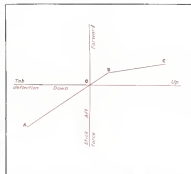
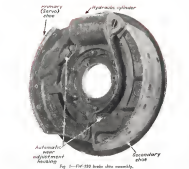

Fig. 2. Diagrammatic representation of stick force required for elevator deflection through action of torsion element in spring tab installation.
Fig. 1—PW-150 brake shoe assembly.
Fig. 1 (Left) Looking up late stretch jaw of one end of the holder. Only two of large springs are shown. Inside the springs are two shafts which guide movement of semicircular jaws. Above looking downward into stretch jaw mechanism, with one semicircular jaw held out to show details of springs. Heavy vertical shaft is punch which fits into mold set in upper jaw.
The solution to the problem came with the Douglas development of a stretch die with a male punch and jaws that operated under the single action of a Toledo draw press. To understand this device, first imagine an orthodox stretch form die in which a hat section is set with the crown inverted and with the flanges on the upper side of the die. The die opens inside a die holder which is 60 in. long. Fastened to the top part of the die holder (Fig. 1) is the sliding part of the die, a male punch which delays its impact upon the work until the metal is under approximately 35% stretch.
Fig. 1 (page at left) shows the units of the spring tab installation as assembled and exploded relations. Elevator nose ribs are fastened to rearward carried by the torque tube (A) which is divided in two sections connected by a bridge fitting (B) at locality of attachment of elevator control linkage is a steel torsion element constructed within each section of the torque tube. This torsion element (C), shown in section in detail B, is essentially a large spring in the form of a tube concentrically doubled back because of space limitations, and attached to one end of the torque tube section.
Action of the spring tube element is such that its movement of the stick causes counter-clockwise rotation of the element's large or outer section (1) which, being attached to extension (2), immediately causes torque tube fitting (3) serving as a stop. Twisting of the large section gives a tab deflection proportional to the stick force used—illustrated by the line OA in the force diagram shown in Fig. 2.
Since the inner and intermediate tube sections twist more readily than the large outer section, force applied beyond point B (Fig. 2) will result in deflection of only these smaller tubes, along the line BC, to give a large tab deflection for comparatively little application of force—a definite aid in spin recovery.
Fig. 1. Torsion tube element unit in section at lower left is used location of Vought AD-6A Corsair. Assembled unit is shown in exploded relation at upper right, giving tab-spring installation of torsion element—gives large elevator deflection under light loading conditions with reasonable stick force, yet permits pilot to retain stick feel when load is light.
Each brake (Fig. 1) has a hydraulically operating cylinder cast integral with the brake shoe support and another brake mechanism is of the use directional type with primary shoe attached to the operating piston and hinged to the secondary or main shoe, which is anchored to the back end of the hydraulic cylinder. Primary shoe provides a servo action and increases braking capacity for a given foot pressure.
Each shoe is equipped with an automatic adjustment device which serves to retract the shoe and maintain a substantially fixed clearance by compensating for wear. As soon as the slack of the arm (Fig. 2), with application of heavy brake pressure or continued normal brake use, and consequent wearing of the shoe, the bearing, as it moves to the right when following the shoe, draws the retaining washers into contact with the split brass nut on the fixed retracting rod, and if the nut is rolled more than half the thread pitch (32 tpi) it will expand and seat itself on the following thread. When the brake is released, the nut acts as a stop and prevents the retracting spring from forcing the shoe back to its original position, since the force of the spring is not sufficient to expand the split nut.
Fig. 2—Detailed view of constant-clearance brake adjustment mechanism on PW-150. Feature is 2-piece brass nut which automatically expands when clearance is encountered as result of brake wear. In operation, the retracting member pushes against the nut, causing it to expand and seat itself on the following thread. When brake is released, nut acts as stop and prevents spring from pulling brake shoe back to original position. (Split nut by Kuler.)
Mounted on a standard Scoreby base, which gives a reversal of rotation every 715 rev, this machine (Fig. 1) has three noteworthy features. Because each half of the testing mechanism is similar to the other, two entirely independent tests may be made at the same time, if a sudden demand should require it; one section of the Scoreby may be used for instruction purposes while the other is still reserved for routine tests; also, floor space and initial investment are considerably less than would be required for two separate machines to perform the same work.
Servo units and the other noncontaminating parts were standard units as used with automatic pilot systems, but the method of construction then was necessarily different. Referring to Fig. 2, the servo units are at the back of the machine and are connected to the follow-up pulleys by cables running over standard ball-bearing pulleys outside the edge of the table. Because the spring-mounted follow-up pulleys exert sufficient force to keep the cables taut and since there are no control surfaces to be moved, cable connections are made only at one end of the servo pulley rods, instead of to both ends as is necessary in the airplane itself.
Fig. 1. Front view of automatic-pilot testing Scoreby, built as two identical sections to permit use of one half for instruction without affecting use of second part for operational testing. Its emergency lock (also used for other of above purposes). Chief Machine Shop of AEA, is shown checking back and forth out of state pilot (left) while direction of cable indicator is in right section. Failure will reverse direction of rotation every 715 rev. Its upper portion frame is in center, with vacuum pipes on each side and oil pressure pipes below. Two lower motor shafts below pipes regulate vacuum in instruments being tested. Gauge counter adjusts in right section as an relay operating behind oil valves. (Detail 11 in Fig. 2). Section below left relay is for instrument lighting. [AEA photo]
Fig. 2. Rear view of instrument/gauge-holding Sweeney. Sump (1) is oil reservoir which returns oil from all parts, (2) is servo valve, (3) servo valve, (4) servo valve, (5) servo valve, (6) servo valve, (7) servo valve, (8) servo valve, (9) servo valve, (10) servo valve, (11) servo valve, (12) servo valve, (13) servo valve, (14) servo valve, (15) servo valve, (16) servo valve, (17) servo valve, (18) servo valve, (19) servo valve, (20) servo valve, (21) servo valve.
The timer (detail 18, Fig. 2) is the only instrument which is not taken from the original Sperry automatic pilot equipment. Its use is essential in checking reaction time of follow-up mechanisms, servo units, and air relays, since these must operate within fairly close time limits to avoid too rapid control surface movements or overcompensation. The instrument is
a standard Kodak photographic timer with front control knob. Seen in Fig. 1 is the right hand mounting unit being used for testing a directional compass indicator. In this case, the servo units and the other parts which would be used on the airplane for operating control surfaces are not in action. Testing of artificial horizons is performed in a similar manner.
Regulation of the vacuum used for operating the gyro is obtained by turning the knob (shown in Fig. 1) on the lower front of each mounting unit. The knob is marked "adder", "adder", and "vacuum", rising from the left. Turning these knobs clockwise reduces the gyro speed (normally 12,000 rpm), while the opposite rotation causes an increase in revolutions.
Oil for servo operation is placed in the sump (detail 1, Fig. 2) and passes through the filter (14) each time it is circulated through the system. Since the capacity of the air servo units is quite large compared to that of the sump, the oil is circulated and filtered sufficiently frequently to prevent there being any likelihood of foreign matter reaching the instruments. Handling is shown in Fig. 3.